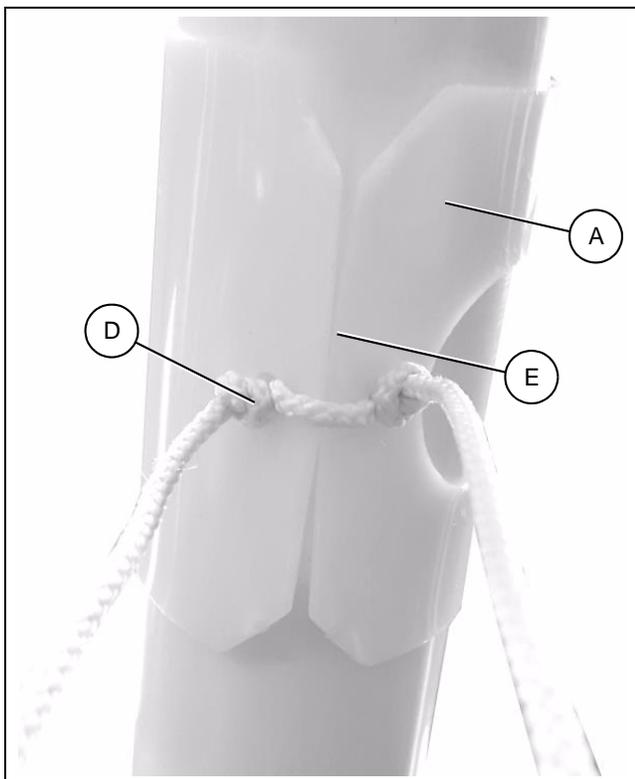

Figure 5P
5. Pull the cord tight until the first knot is firmly seated against the rotary slide (A) and the ends of the rotary slide touch each other evenly.
6. Tie a second knot (D) on the opposite side, making sure it is seated firmly against the rotary slide and there is no gap in the rotary slide (E). (See Figure 5P.)